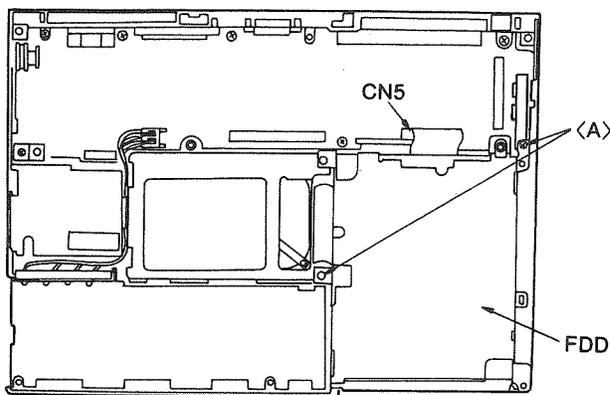

Figure 17
- (1) After removing the top case, the keyboard, and the main PCB (Upper), remove two screws <A> ( $3 \times 4$  mm) as shown in Figure 17.